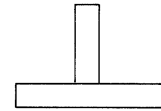

Figure 2.3
2. Position the metal so that the joint to be welded will be in the horizontal position. (See Figure 2.3.)